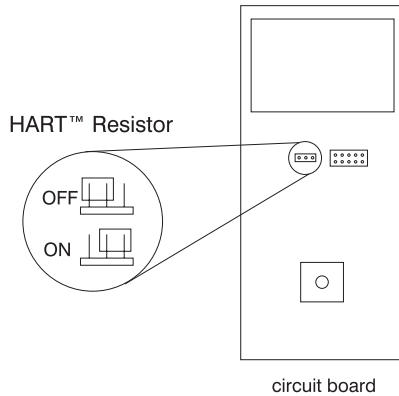

Figure 6
2. Remove the six (6) screws that secure the two halves of the case together.
3. Remove the top half of the case and locate the HART jumper, (see figure 6).
5. Close the case and replace the six (6) screws.